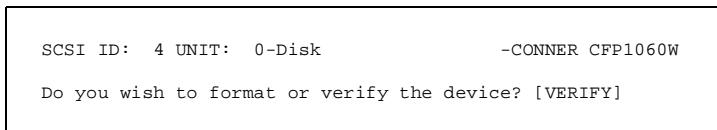

Figure 3-5. Format or Verify Device Screen
Once a valid device is selected and accepted, *SCSISelect* displays the selection and asks if you want to format or verify the device, as in Figure 3-5.
- 1 Select the **Format** option from the Format or Verify Device screen (see Figure 3-5 on page 3-11).